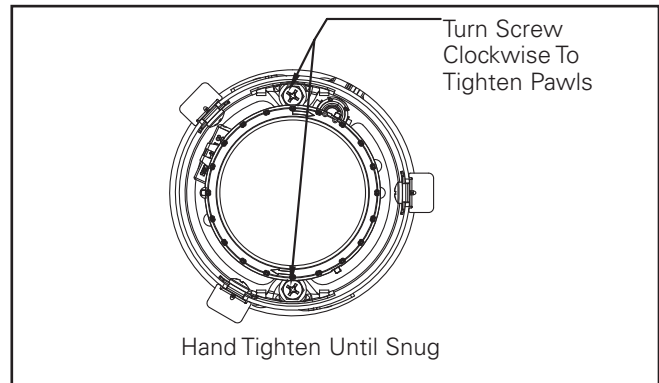

Figure 4
8. Turn both pawl screws clockwise until they fit are holding the module into the ceiling (see figure 4). Do NOT over torque the screws. HAND-TIGHTEN ONLY.